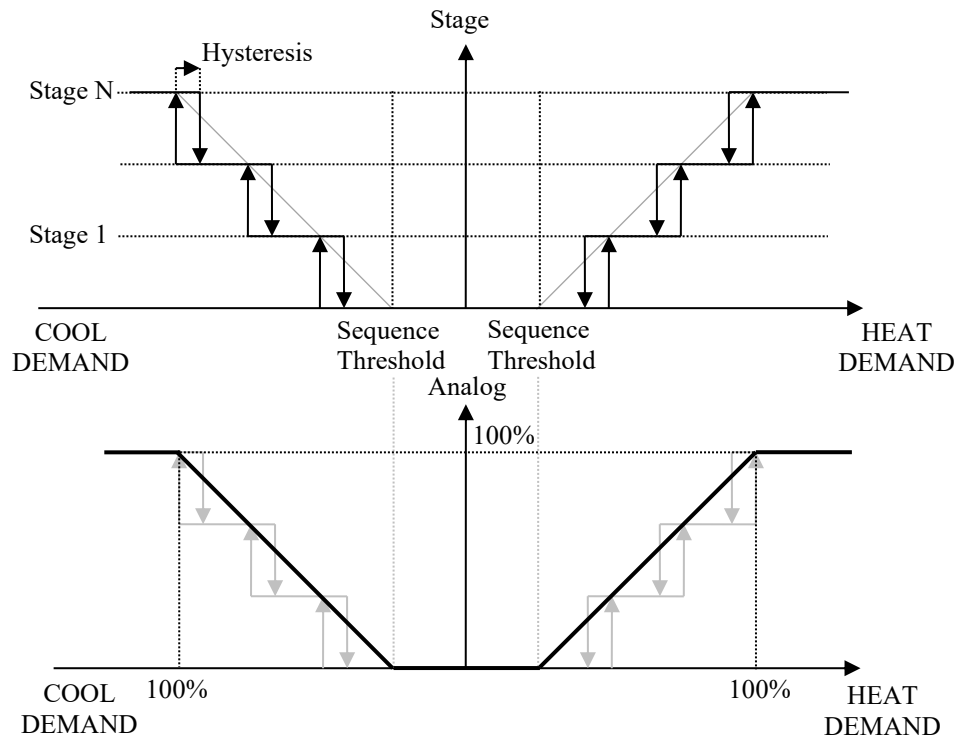

Figure 29: Fan coil sequencing based on heating/cooling demand, scaled after the sequence threshold
- After Threshold (1): Scaling after the sequence threshold, see Figure 29